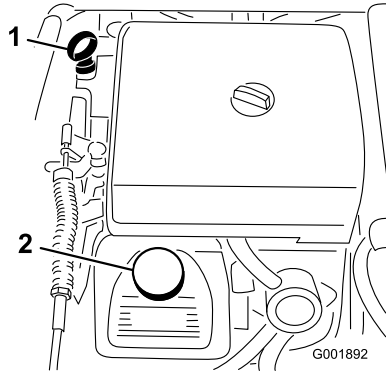

Figure 45
- Remove the dipstick and wipe it with a clean rag (Figure 45). Insert the dipstick into the tube and make sure it is seated fully. Remove the dipstick and check the oil level.
- If the oil level is low, remove the filler cap from the valve cover (Figure 45) and pour oil into the opening until the oil level is up to the Full mark on the dipstick. Add the oil slowly and check the level often during this process. Do not overfill.
- Slowly pour approximately 80% of the specified amount of oil into the oil filler tube (Figure 45).